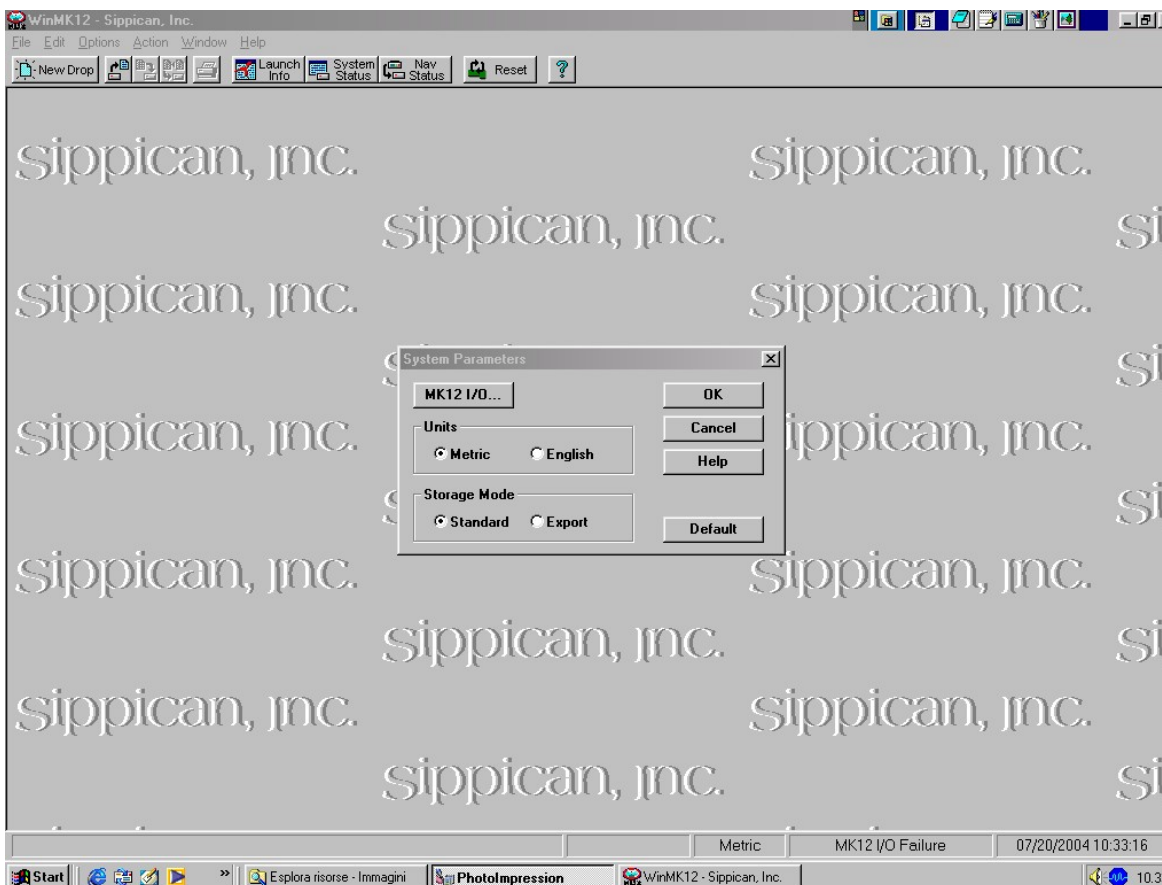

Figure 2. Setting **Metric** and **Storage**
2. Metric System. Check that the system parameters are in **Metric** and **Standard Storage**. This has to be done by clicking **Options**, then **System** and select the appropriate values (see figure 2).